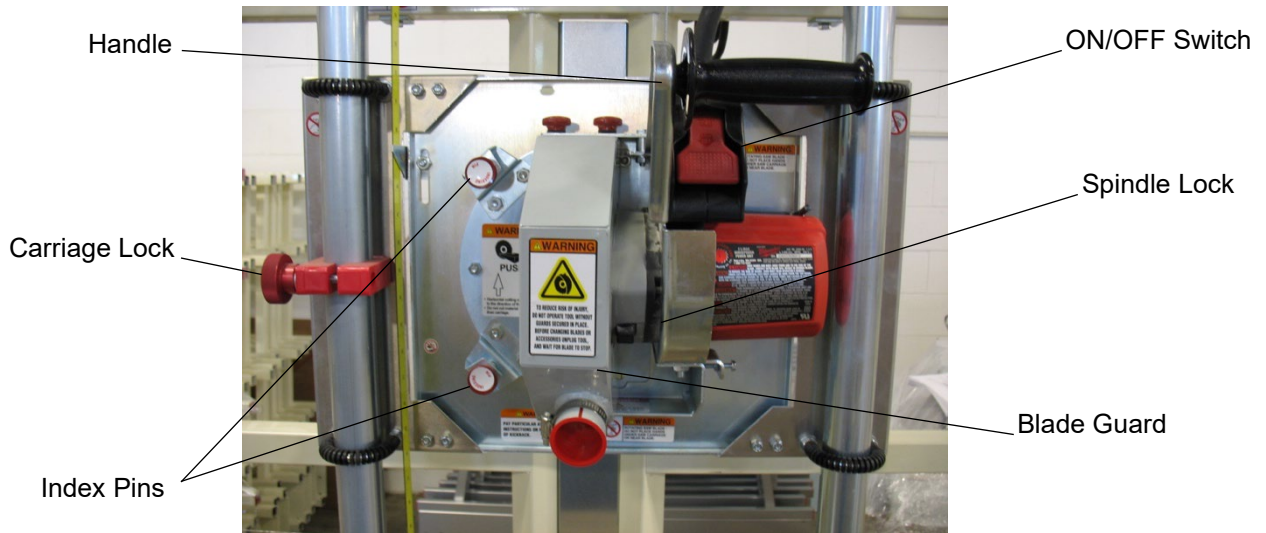

Figure 26: Basic Operating Controls and Components (C & H Series)
Refer to Figure 26 & 27 for the location of operator controls on each model saw.
C-Series and H-Series saws. Start the motor by lifting on the paddle switch (page 28, Fig. 26) located under the saw handle. Stop the motor by pressing the same switch down.
All saw models. Pull out both of the indexing pins (page 28, Fig. 26 & 27), and pivot the turntable until they snap into the appropriate holes.
C-Series and H-Series saws. Use the handle attached to the motor body (page 28, Fig. 26).
Lock the carriage by tightening the (carriage lock), (page 28, Fig. 26 & 27) lock knob:
1. Remove the blade guard (page 28, Fig. 26 & 27) so the blade is exposed.